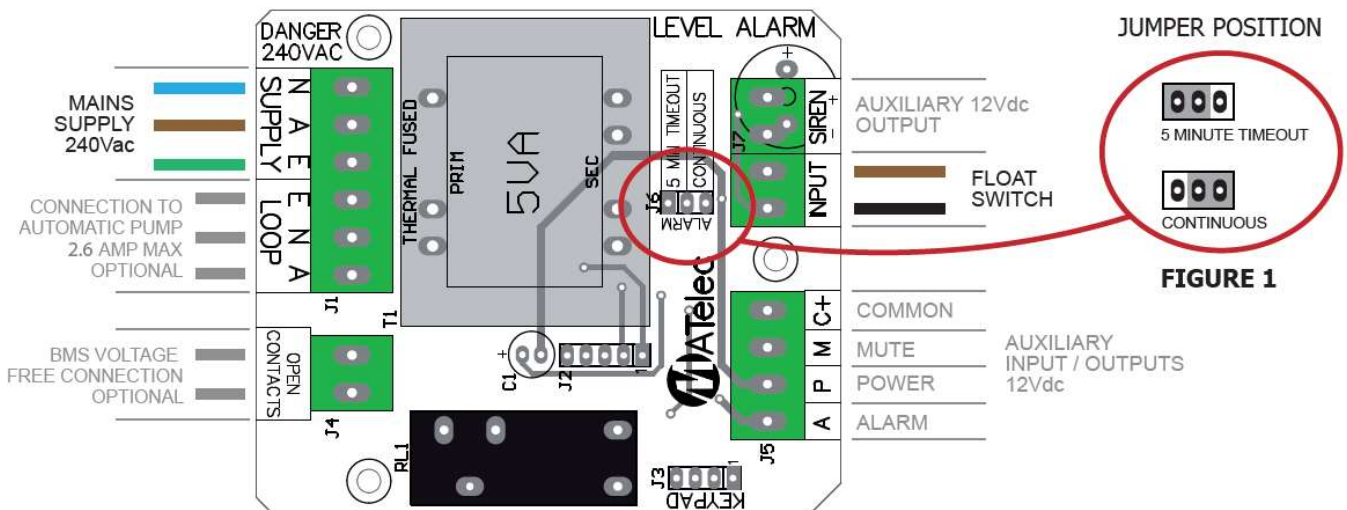

FIGURE 1
- If not muted the audible buzzer will automatically silence after 5 minutes. If a continuously sounding audible alarm is required, this can be done by changing the Jumper position (see Figure 1).